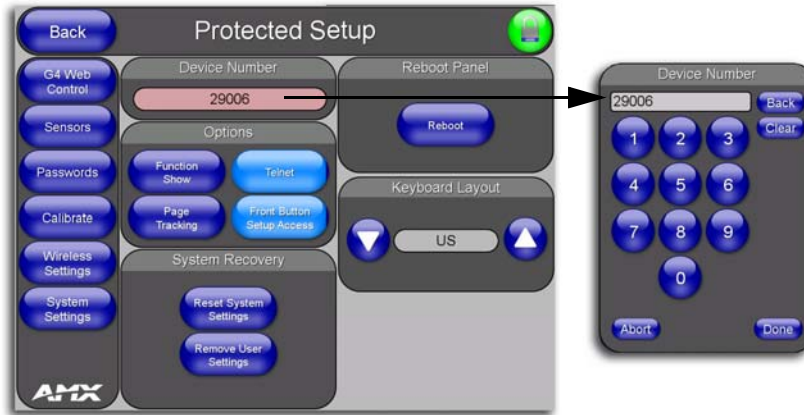

FIG. 51 Protected Setup page
4. Press the red *Device Number* field to open the Device Number keypad (FIG. 51).